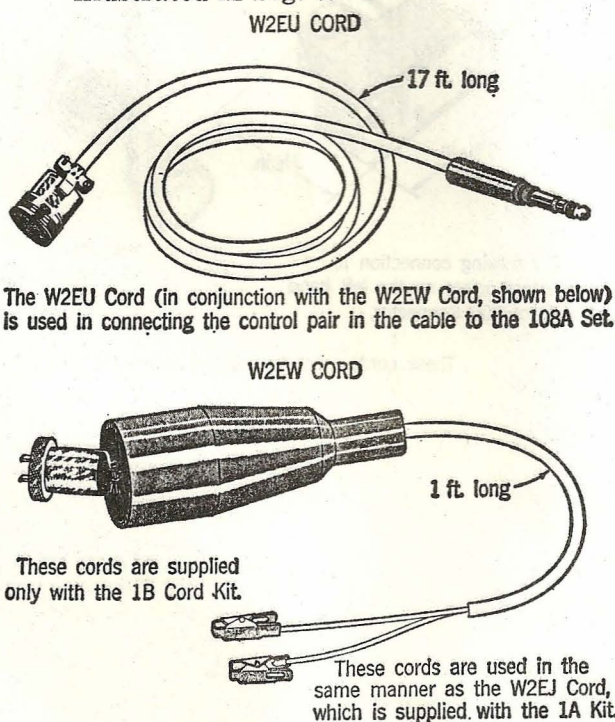

Fig. 7
- 4.05 W2EU and W2EW Cords:** These cords are illustrated in Fig. 7.